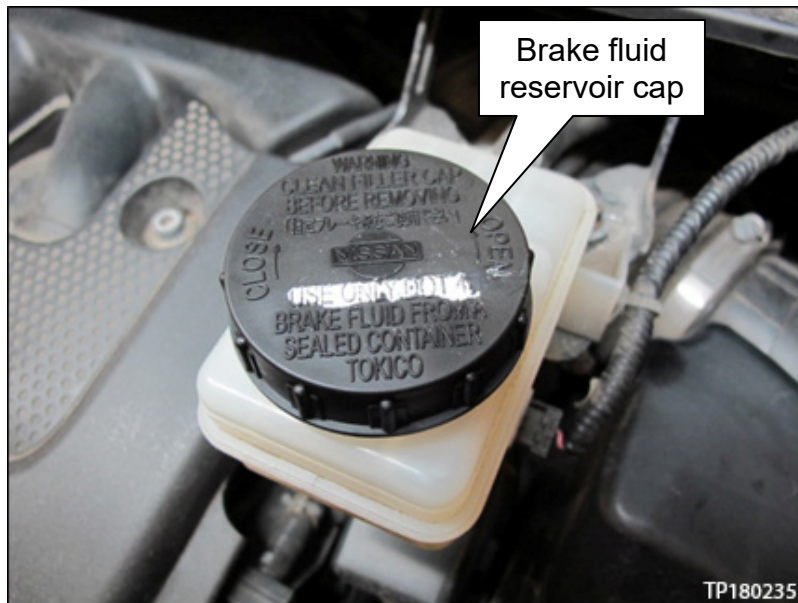

Figure 24
42. Replace the brake fluid reservoir cap (Figure 24) with the new DOT 4 cap marked in step 41.